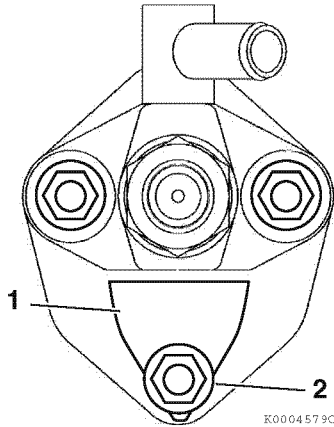
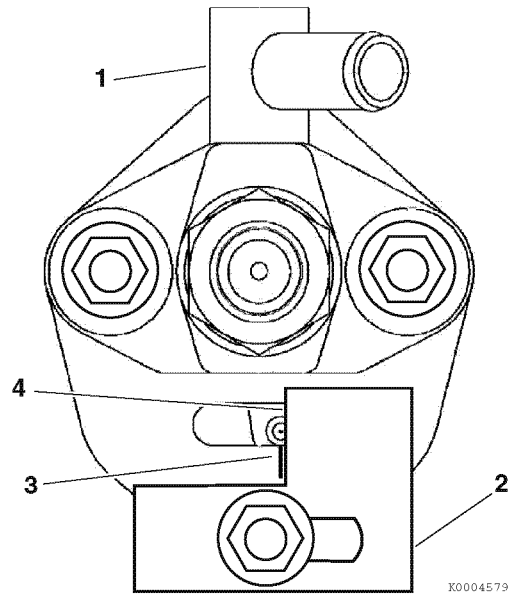

Figure 7-9
Figure 7-10
- Remove the nut (2, **Figure 7-9**) fastening the injection pump inspection window cover plate (1, **Figure 7-10**). Remove the inspection cover plate and gasket.
- Install the fuel adjustment jig (2, **Figure 7-10**), YANMAR P/N 114771-92310, in the fuel injection pump inspection window. Using the inspection window cover plate nut, fasten the fuel adjustment jig aligning the upper left edge of the jig (4, **Figure 7-10**) to the alignment mark scribed on the face of the fuel injection pump (1, **Figure 7-10**) base plate (3, **Figure 7-10**).
- Be sure to keep the fuel adjustment jig parallel to the inspection window opening. (**Figure 7-10** shows the alignment mark for clarity only. The edge of the jig should be directly on the mark when installed properly.)